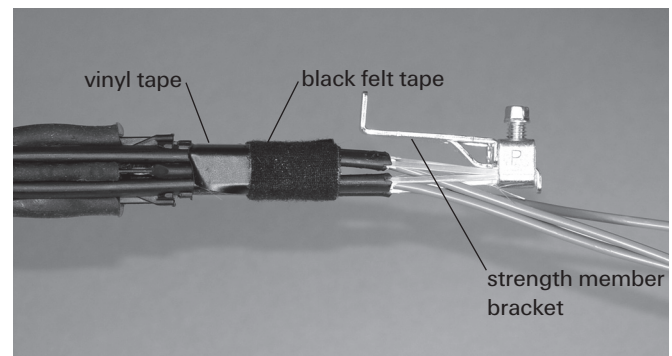

Figure 7
6. Wrap two complete layers of black felt tape around cable(s) 1/2" from the ring cut. (Figure 7)